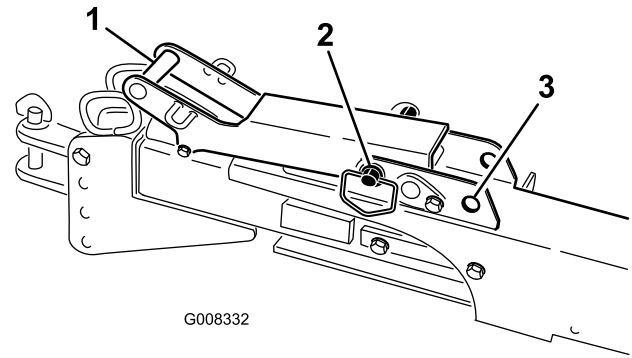

Figure 35
4. If using the tow hitch, reposition the core processor behind the vehicle, retract the tow hitch and move the latch-handle pin to the locked position (Figure 35).